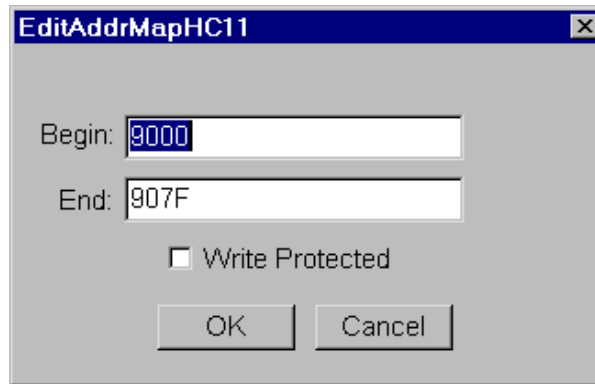

Figure 43. Add Dialog Box for the Bank-Switched Board
2. In the Memory Mapping window, click **Add** to add a memory range. The **EditAddrMapHC11** dialog box opens (Figure 43).